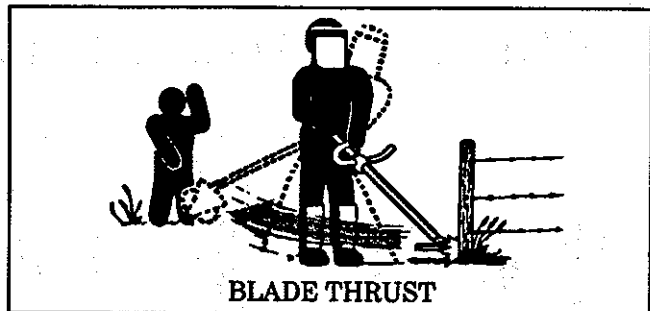

Figure 14
1. WHAT CAUSES BLADE THRUST? *Blade Thrust* can occur when the spinning blade contacts an object that it cannot cut. This contact causes the blade to stop for an instant and then suddenly move or "thrust" away from the object that was hit. The "thrusting" reaction can be violent enough to cause the operator to be propelled in any direction and lose control of the tool. The uncontrolled tool can cause serious injury if the blade contacts the operator or others. Figure 14.